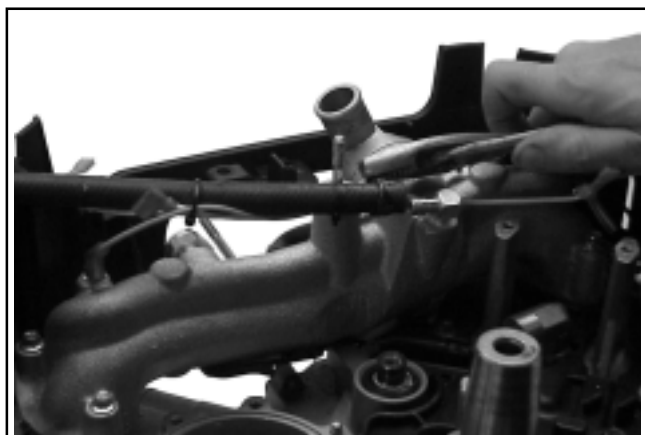

Figure 9-47. Removing Coolant By-pass Hose from Intake Manifold Fitting.
1. Unseat the clamp and disconnect the coolant by-pass hose from the fitting on the intake manifold. See Figure 9-47.